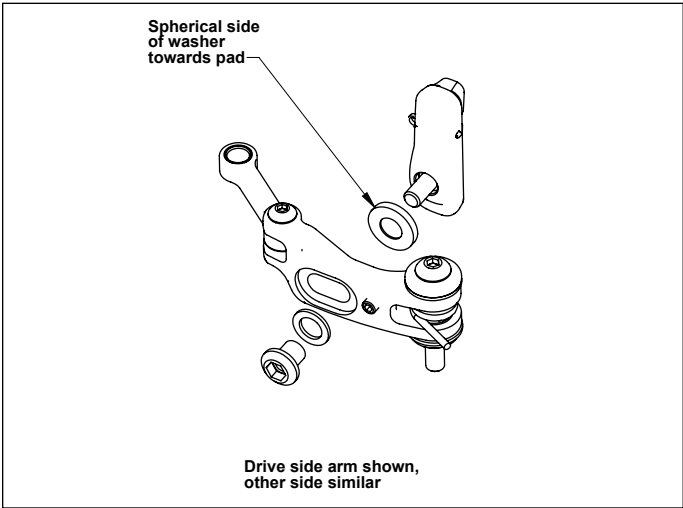

Figure 1
4. Install the left brake pad holder (marked L) on the non-drive side brake arm. The large spherical washer must be next to the pad holder on the inside of the brake arm. The small flat washer and hex cap must be on the outside of the arm. Tighten the hex cap enough to hold the pad in place. (Figure 1)
5. Repeat step 4 with the drive side (R) brake pad holder on the drive side arm.